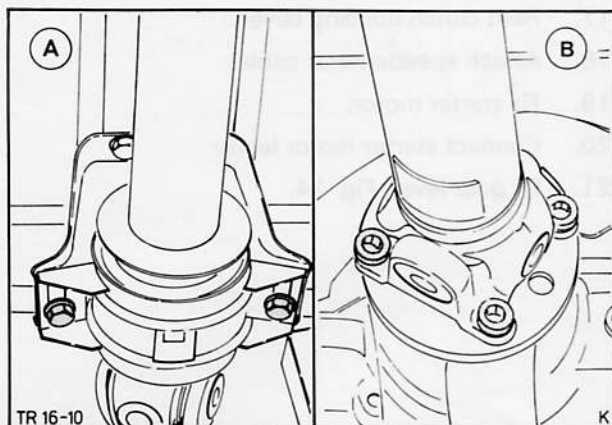

Fig. 11. Driveshaft mounting – rear axle flange and centre bearing
9. Unbolt driveshaft from drive flange and floor pan centre bearing (6 bolts), Fig. 11. Draw shaft complete out of gearbox extension housing.